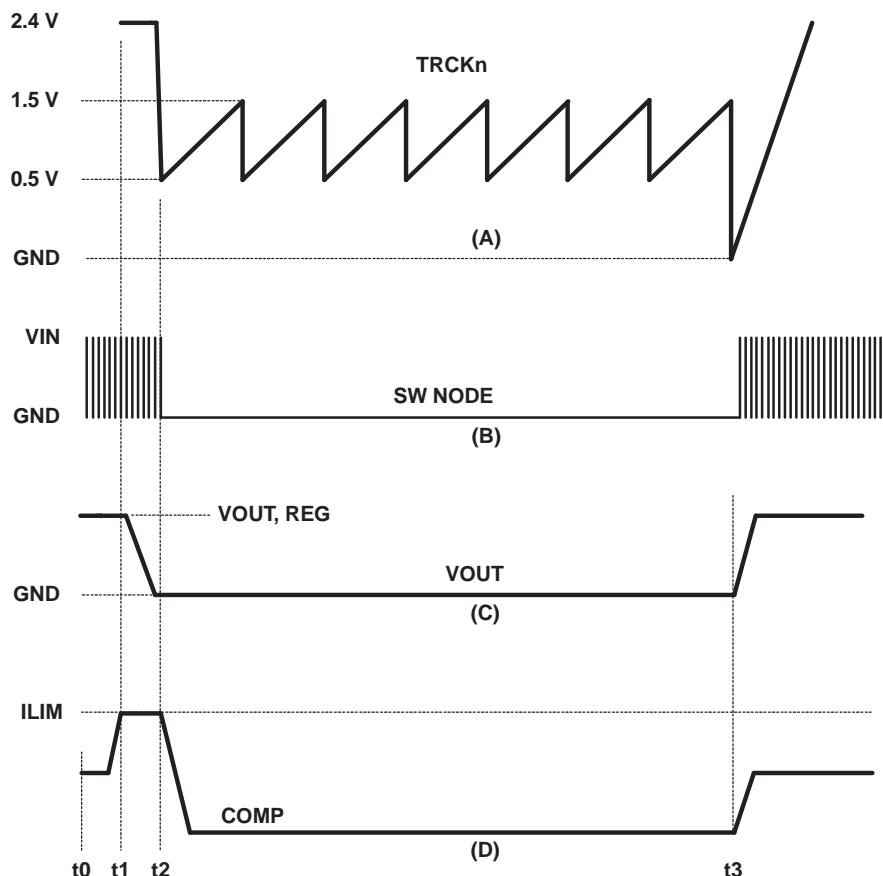

Figure 5-9. Hiccup Mode and Recovery
In order to reduce the input current and component dissipation during on overcurrent event, a hiccup mode is implemented. Hiccup mode refers to a sequence of 7 soft-start cycles where no MOSFET switching occurs and then a re-start is attempted. If the fault has cleared, the re-start results in returning to normal operation and regulation. This is shown in Figure 5-9.
In Figure 5-9, normal operation is occurring between t_0 and t_1 as shown by V_{OUT} being at the regulated voltage, (C) and normal switching on the SW NODE (B) and COMP at its nominal level, (D). At t_1 , an overcurrent load is experienced. The increased current forces COMP to increase to the ILIM level as shown in (D). If the COMP voltage is above the ILIM voltage for 7 switching cycles, the controller enters a hiccup mode. During this time the controller is not switching and the switching MOSFETs are turned off. The TRCKn voltage goes through 7 cycles of charging and discharging the soft-start capacitor. At the end of the 7 cycles the controller attempts another normal re-start. If the fault has been cleared, the output voltage comes up to the regulation level as shown at time t_3 . If the fault has not cleared, the COMP voltage again rises above the ILIM voltage and the hiccup mode repeats.